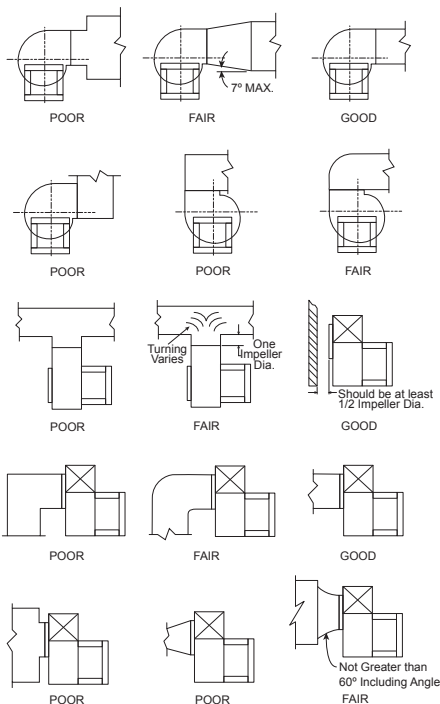

Figure 4
3. Restricted or unstable flow at the fan inlet can cause pre-rotation of incoming air or uneven loading of the fan wheel, yielding large system losses, increased sound levels and structural failure of the blower wheel. Free discharge or turbulent flow in the discharge ductwork will also result in system effect losses. The examples in Figure 4 show the system layout and inlet and discharge configurations which can affect blower performance.